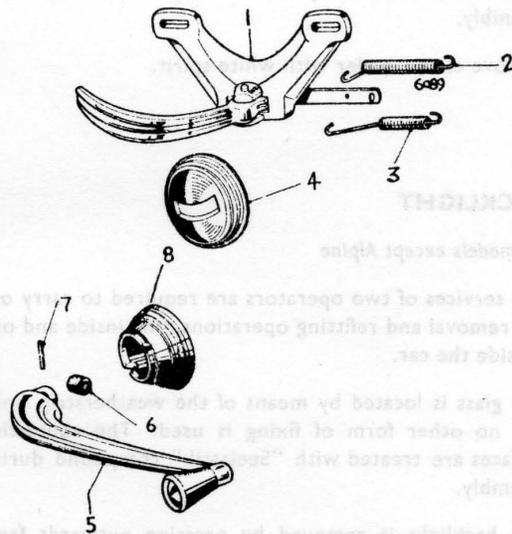

Fig. 5. Interior door handles
**Window regulator** (See Fig. 5)
**Door lock remote control** (See Fig. 5)